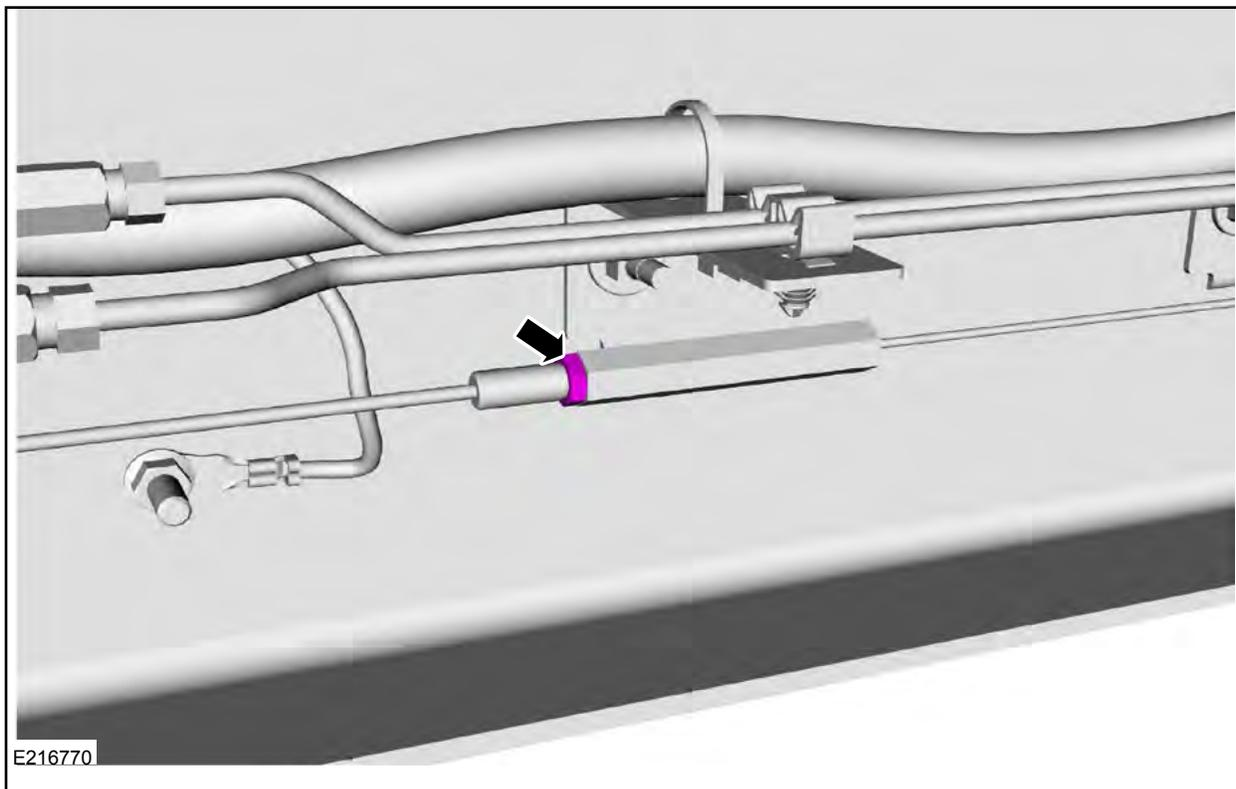

FIGURE 1
2. Loosen the parking brake cable turn buckle lock nut. See Figure 1.